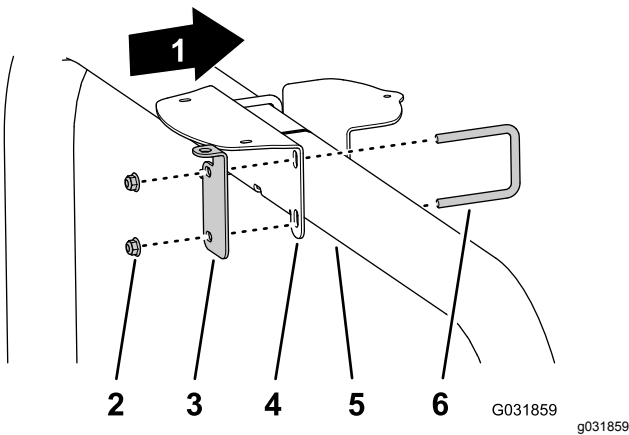

Figure 150
- If your machine has GNSS and the CDMA or GSM RTK correction modem kit, assemble the receiver mount and RTK-antenna bracket to the ROPS tube (Figure 150) with the 2 U-bolts and 4 flange locknuts (3/8 inch).